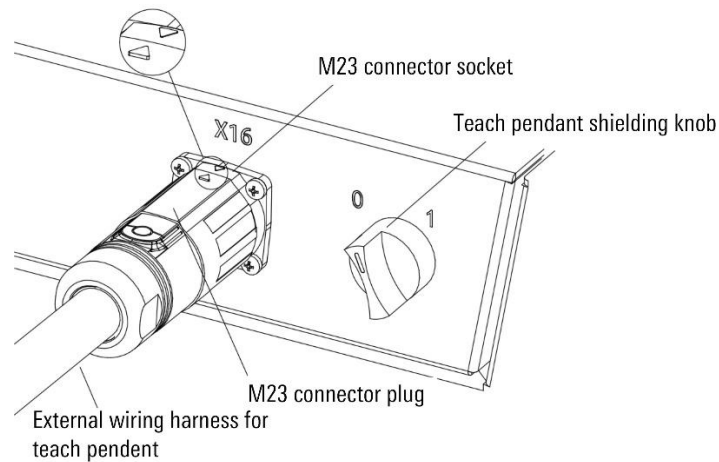
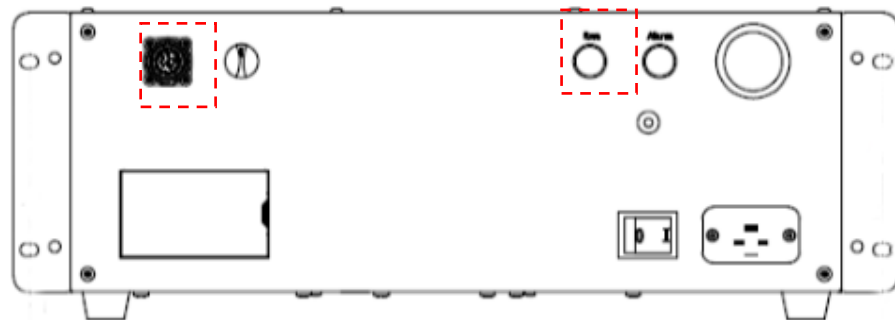

Figure 10-2 Teach pendant connection interface
Figure 10-5 Socket location on the inCube20/22 control cabinet
- Step2. Align the triangular symbol of the connector plug with the triangular symbol of the connector socket (e.g. partial enlarged view of Figure 10-2), push the connector plug, and rotate 45° clockwise to make it with the connector socket, clamp. See the box in Figure 10-5 for the location of the socket.